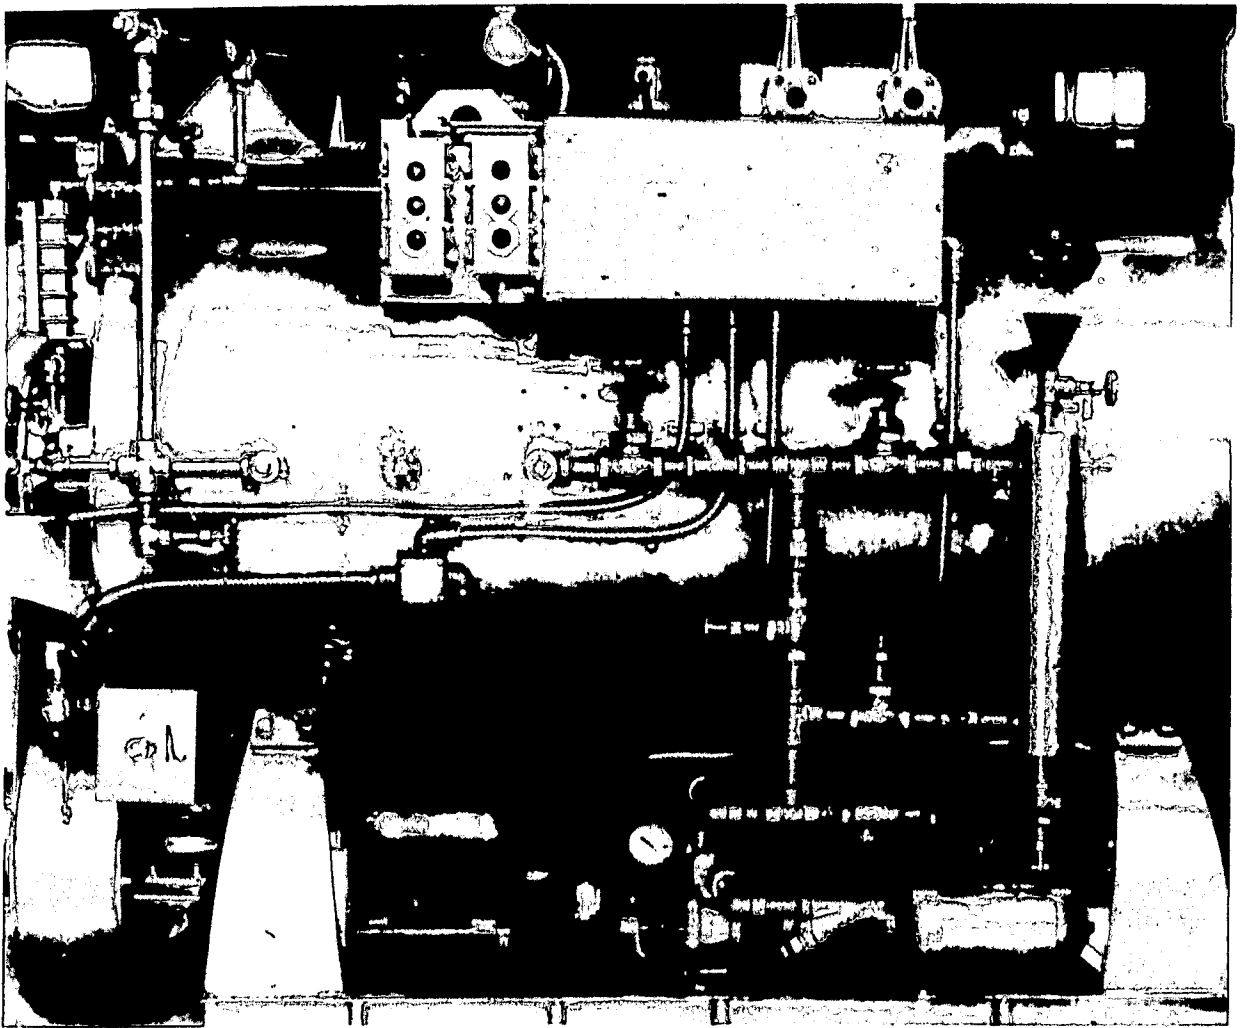

Figure 6-19.—Fire-tube auxiliary boiler.
Auxiliary boilers are not generally used on steam-driven ships because all steam for auxiliary service is taken from the propulsion-plant boilers. Auxiliary boilers are a wide variety of small boilers that are used in diesel-driven ships to supply steam or hot water for distilling plants, space heating, galley and laundry services. Auxiliary boilers contain their own accessories and controls and operate as a complete self-contained unit. The three basic types of auxiliary boilers in naval use are (1) fire-tube boilers (fig. 6-19), (2) water-tube boilers with natural circulation (fig. 6-20), and (3) water-tube boilers with forced circulation (fig. 6-21).